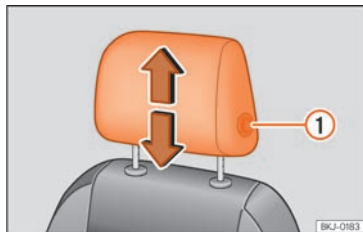
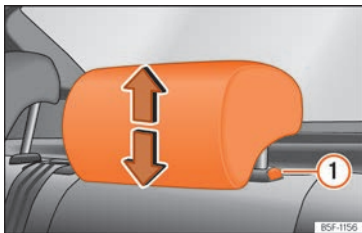

Fig. 68 Front seat: adjusting the head restraint.
Fig. 69 Rear headrest: adjusting the headrest.
- Grab the sides of the head restraints with both hands and push upwards to the desired position. To lower it, repeat the same action, pressing the button on the side **1** >>> Fig. 68, >>> Fig. 69.